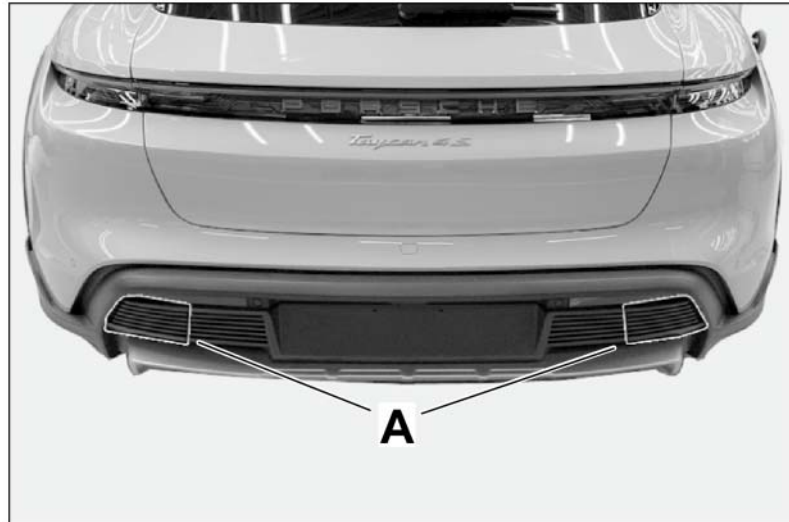

Figure 34
34. – Engage the two covers ⇒ *Figure 34 -LHD vehicle* - at the designated positions at the bottom and then push them in firmly at the top. **Important:** Please note that the tailgate can open when installing the covers on vehicles with the optional equipment "Virtual pedal" (VIP).